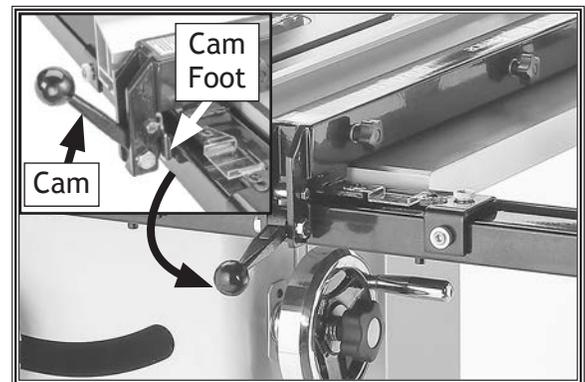

Figure 29. Fence installed on rails.
18. Place fence on rails (on right hand side of blade, as shown in Figure 29).